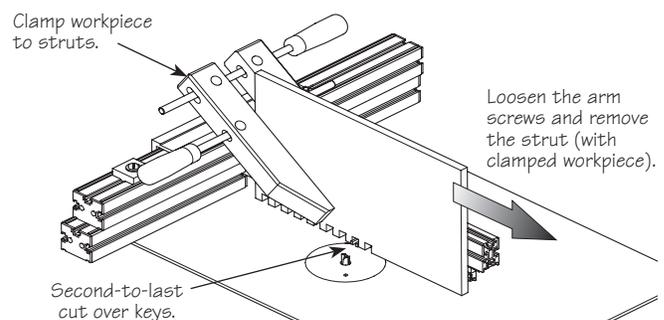

Figure 25: Workpiece clamped to struts with second-to-last cut over keys.
- With the second-to-last finger cut in the workpiece placed over the keys, clamp the workpiece to the sled as shown in **Figure 25**.